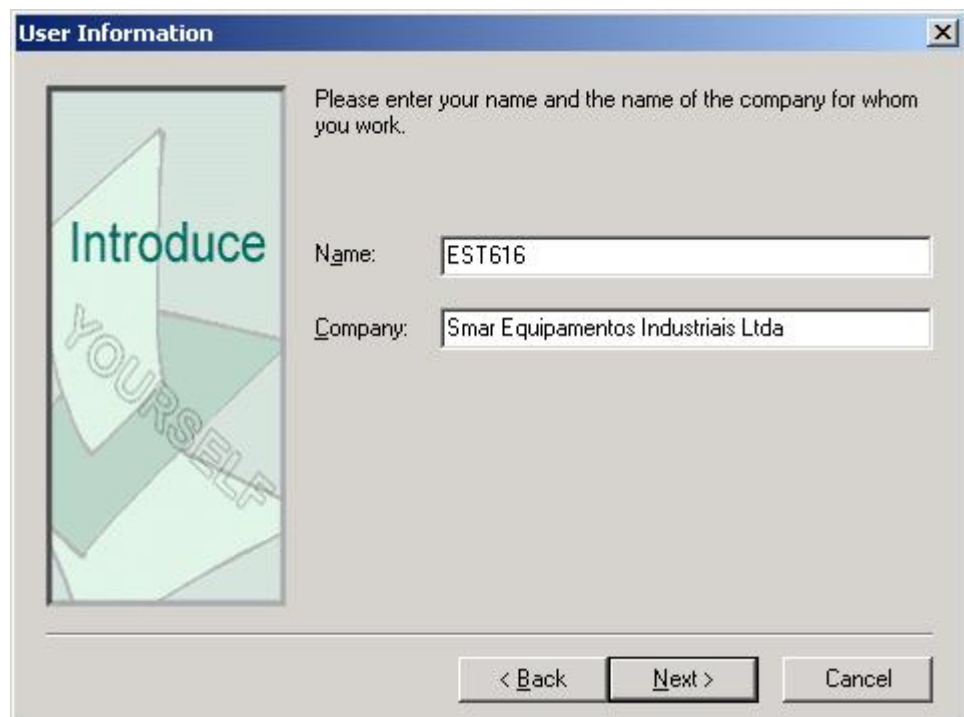

Figure 2.3. User Information
7. The **User Information** dialog box appears, as shown in **Figure 2.3**. Enter your name in the **Name** field and your company information in the **Company** field. Click **Next**.